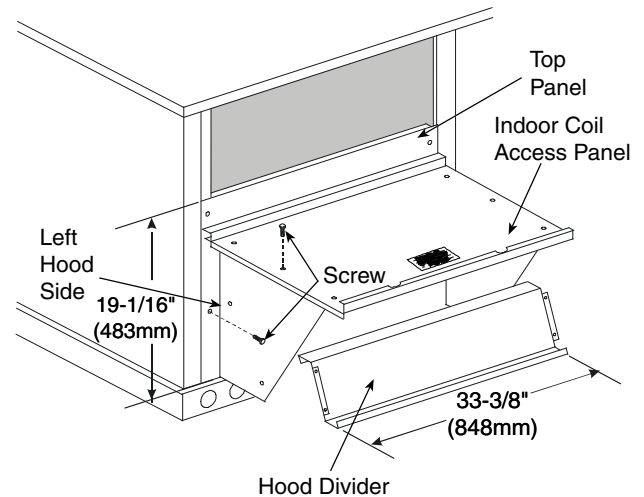

Fig. 12 — Economizer Hood Construction
2. Swing out indoor coil access panel and insert the hood sides under the panel (hood top). Use the screws provided to attach the hood sides to the hood top and the unit. (See Fig. 12.)
4. Insert the hood divider between the hood sides. (See Fig. 12 and 13.) Secure hood divider with 2 screws on each hood side. The hood divider is also used as the bottom filter rack for the aluminum filter.